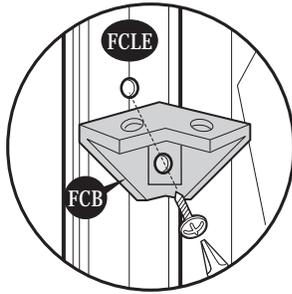

Fig.1: Use (S2) screw. Fix (FCB) to (FCLE). Leave it loose.
15. To stabilize the side panel attach the center band (CB2E) from inside. Start with the center band fitting (FCB) fix to the column (FCLE) with (S2) screws. See fig. 1, 2 & 3.